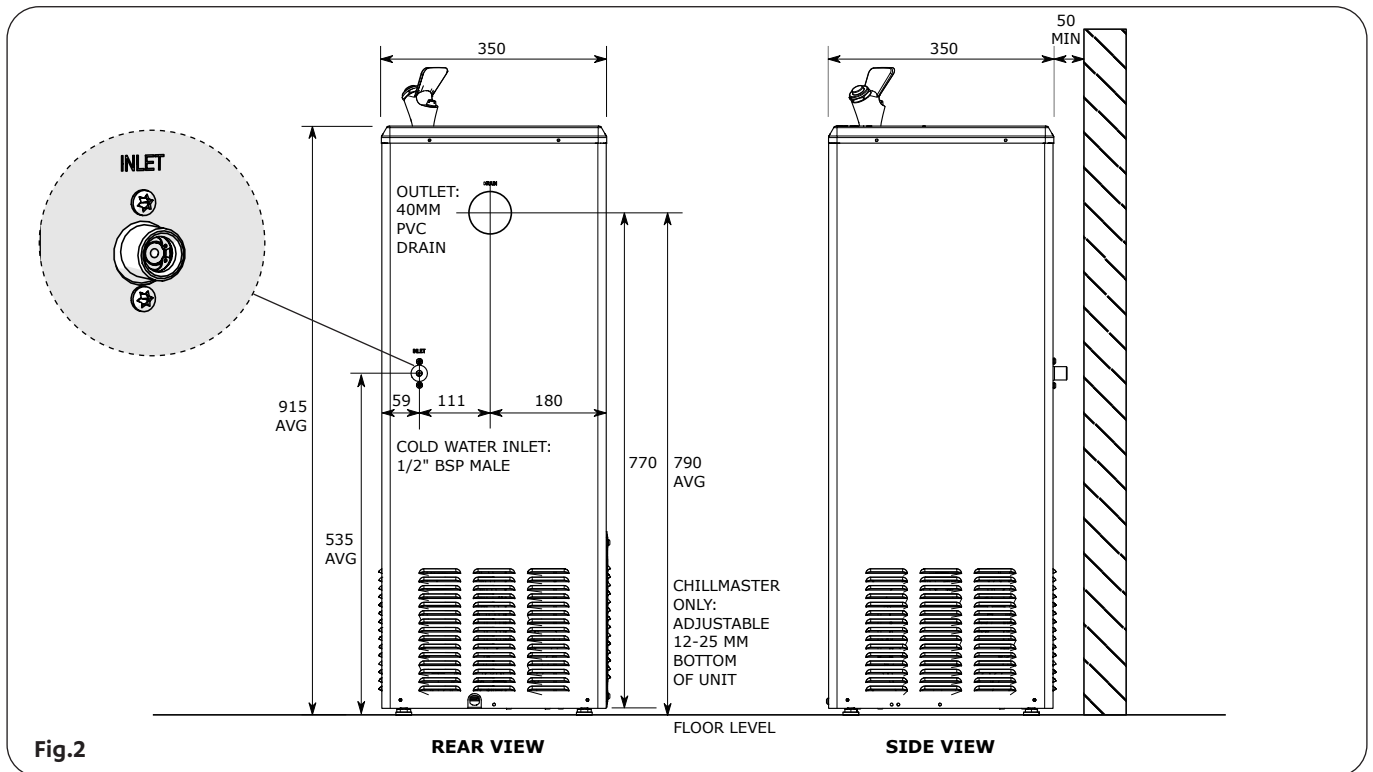

Fig.2
The average height for the centre line of the water inlet is 535 mm, and for the waste outlet, 790 mm (Fig.2).
- Connect a cold water supply to the half-inch BSP male inlet at the back of the unit (Fig.2).